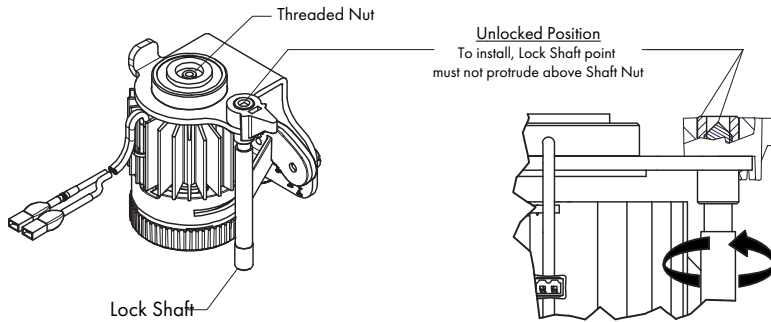

FIG 8.1 Preparing Lamp Module J2S -TW for installation
STEP 1 Before installing Lamp Module, make sure accessories & correct LED Power Supply Module are installed & Lock Shaft is in unlocked position - **FIG 8.1 & 8.2.**